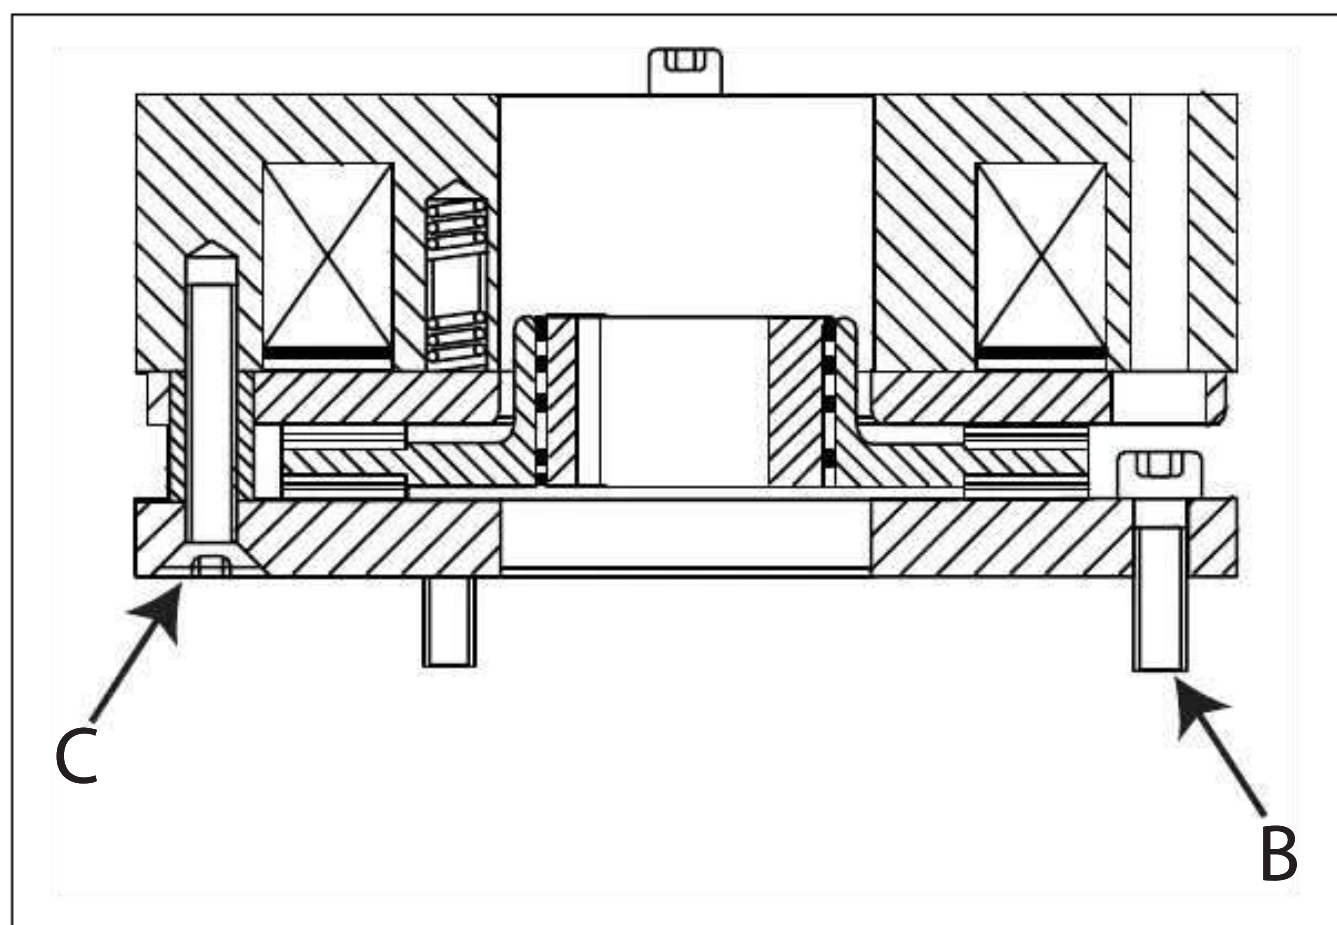

Figure 11.2 Electric brake (2006w47–)
2. Undo the three retaining screws, pos B in figure 11.2.